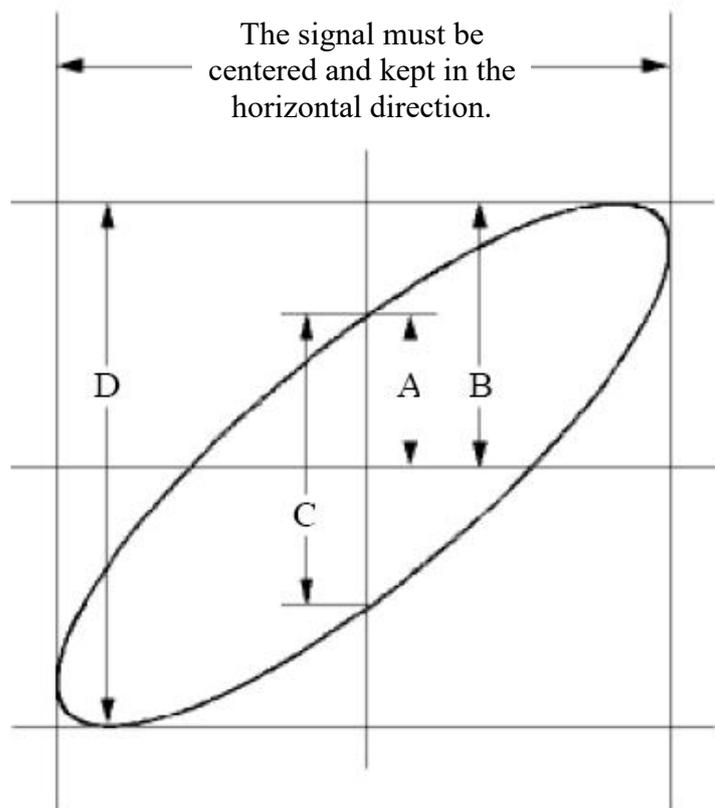

Figure 6- 6 Lissajous Graph
- (1) Set the probe menu attenuation coefficient for **10X** and that of the switch in the probe for **10X** (see "*How to Set the Probe Attenuation Coefficient*" on P11).
- (2) Connect the probe of channel 1 to the input of the network and that of Channel 2 to the output of the network.
- (3) Push the **Autoset** button, with the oscilloscope turning on the signals of the two channels and displaying them in the screen.
- (4) Turn the **Vertical Scale** knob, making the amplitudes of two signals equal in the rough.
- (5) Push the **Acquire** button to display the right menu.
- (6) In the right menu, select **XY Mode** as **ON**. The oscilloscope will display the input and terminal characteristics of the network in the Lissajous graph form.
- (7) Turn the **Vertical Scale** and **Vertical Position** knobs, optimizing the waveform.
- (8) With the elliptical oscillogram method adopted, observe and calculate the phase difference (see *Figure 6- 6*).